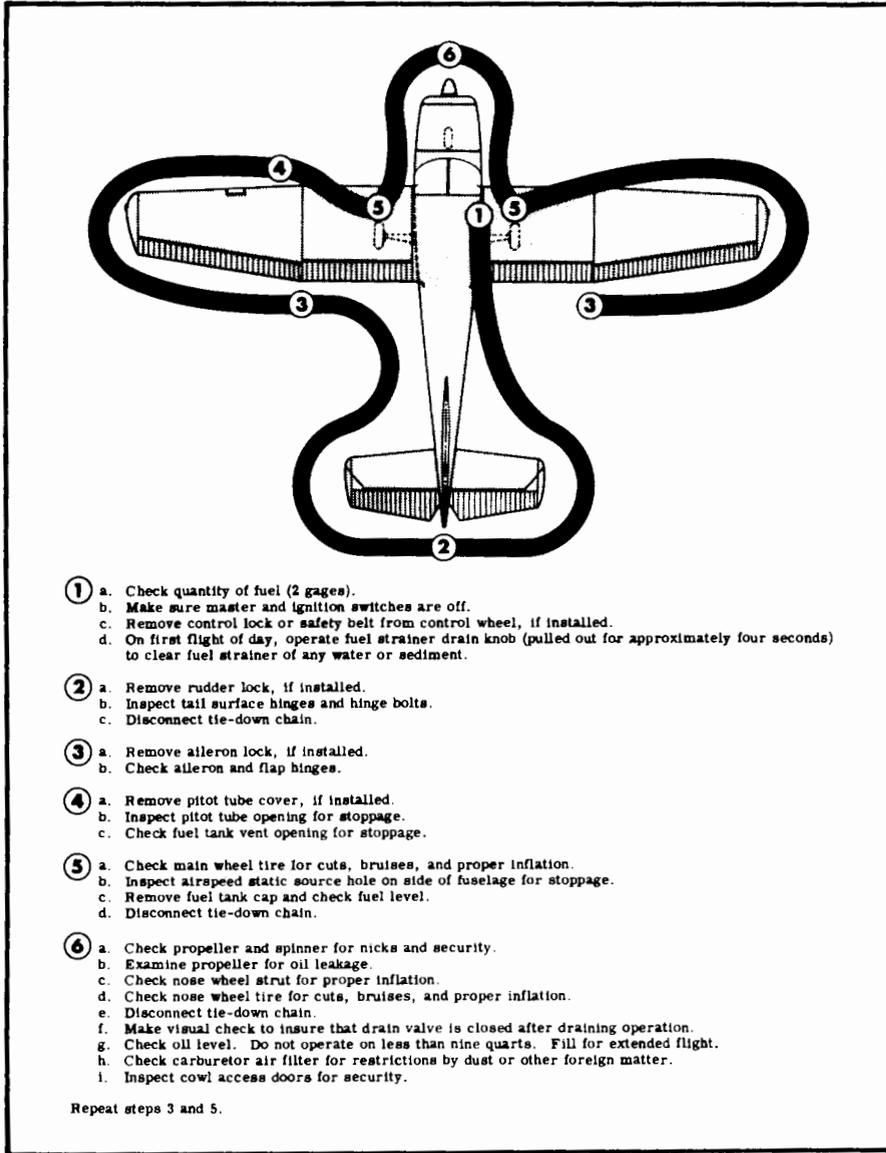

Figure 10. Exterior Inspection Diagram
- (1) Perform an exterior inspection of the airplane (See figure 10).